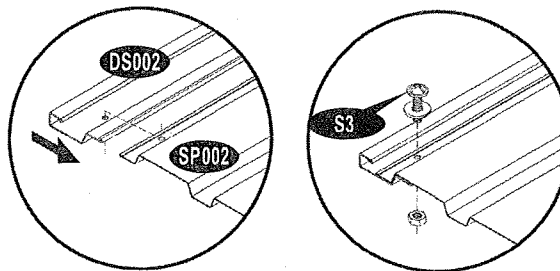

Fig. 3
7. Fix shutter door strip back (DS002). Insert (SP001) and line up the holes with the shutter door strip (DS002). Secure with (S3) bolts and nuts with washers. See fig. 3. (Observe position of the strip)